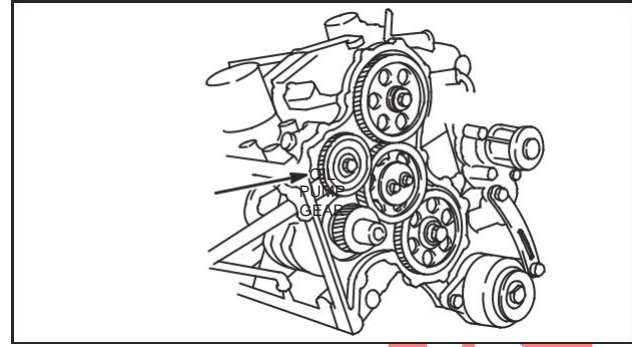

Fig. 5 – Removing Oil Pump Gear
6. Remove oil pump drive gear, Fig. 5.